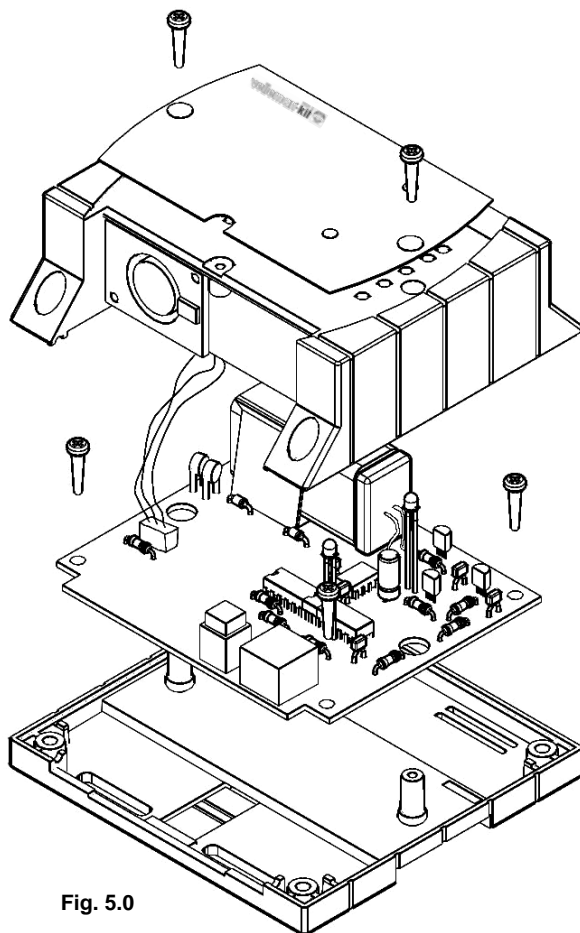

Fig. 5.0
- ☐ If stand alone function is used, connect the battery to the connector and insert the battery in the battery compartment as indicated in fig. 5.0.